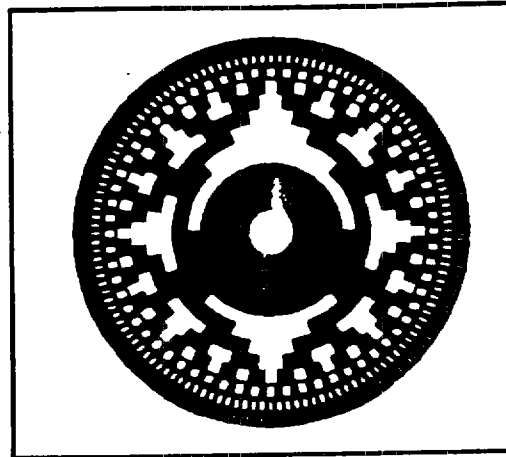
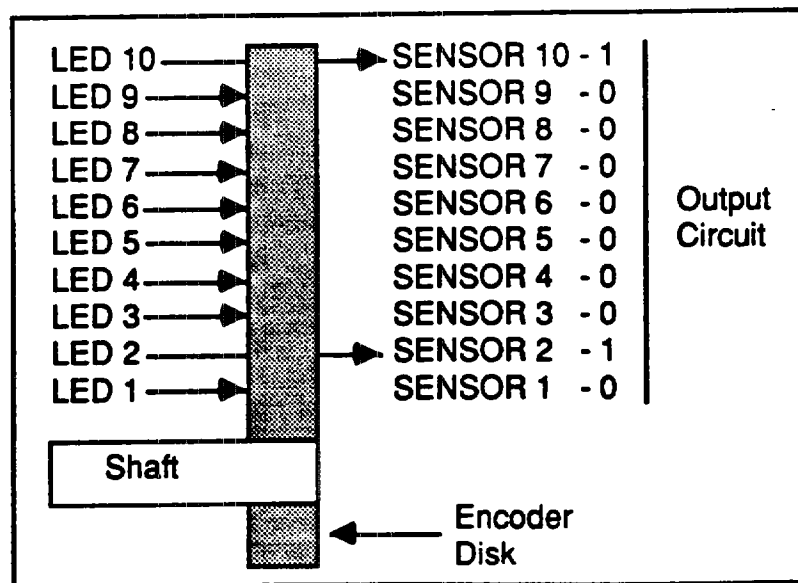

Figure 1-1. Absolute Encoding Disk
Figure 1-2. Cross-Section Sensing Circuit
The AL linear encoder is a rotary absolute encoder that has its shaft replaced with a pinion and rides on a rack. The output data is obtained when light shines through a disk and is detected by a photo-transistor. Figure 1-1 is a top view of this disk (where the light sources will be aimed). The disk is constructed of metal and is arranged in concentric tracks. Each track has an independent LED, and photo-transistor parallel to the disk. This encoder disk has each track phased in a binary ratio to the next. The inside tracks are coarser, and the outside track has the finest resolution.
Figure 1-2 provides a cross-sectional view of the LED and sensors in relation to the disk. The only moving device is the disk, which is attached to the pinion shaft. As each LED passes an opening on the disk, it causes current to flow to the output circuit. The output circuit is then in a high state. The lights that are blocked by the track have no current flow to the output circuit, which causes a low state. The output circuit then assigns a number for these high and low states. A high signal is assigned with a one (1) and a low signal is assigned with a zero (0). Each high or low (1 or 0) value per light is referred to as a bit. Most encoders use ten tracks on the encoding disk to obtain ten bits of positional data. With the AL, redundancy encoding is employed, which eliminates uncertainty between positions. In this case, only mechanical motion is allowed to change the position. This is commonly referred to as redundant gray code. This form of encoding has been developed by Compumotor using the disk shown in Figure 1-1.